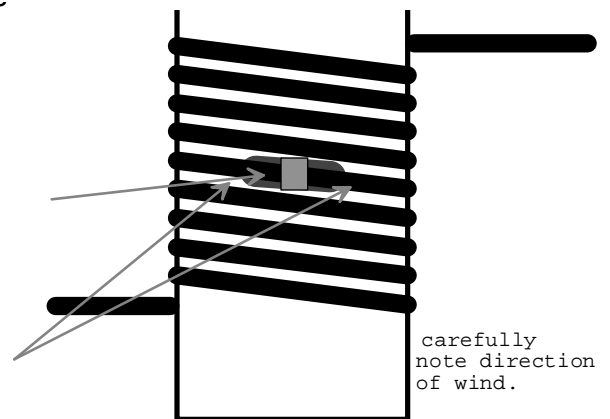

fig. 1
1. New cable is pre-bent at a certain spot. Note that the bend is not exactly in the middle, so that one end is slightly shorter than the other. Push the bend into Adjuster Pipe hole so that the shorter end leads to back of machine. (After winding, the cable will leave pipe at bottom as in fig. 1 and the shorter end will go towards front of machine)
5. Wrap the shackle end around pipe so as to follow a left hand thread as shown in fig. 1.